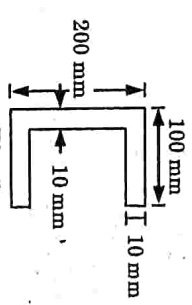

Fig. 5.
a. What do you understand by shear centre? Determine the shear centre for the channel section shown in Fig. 5.